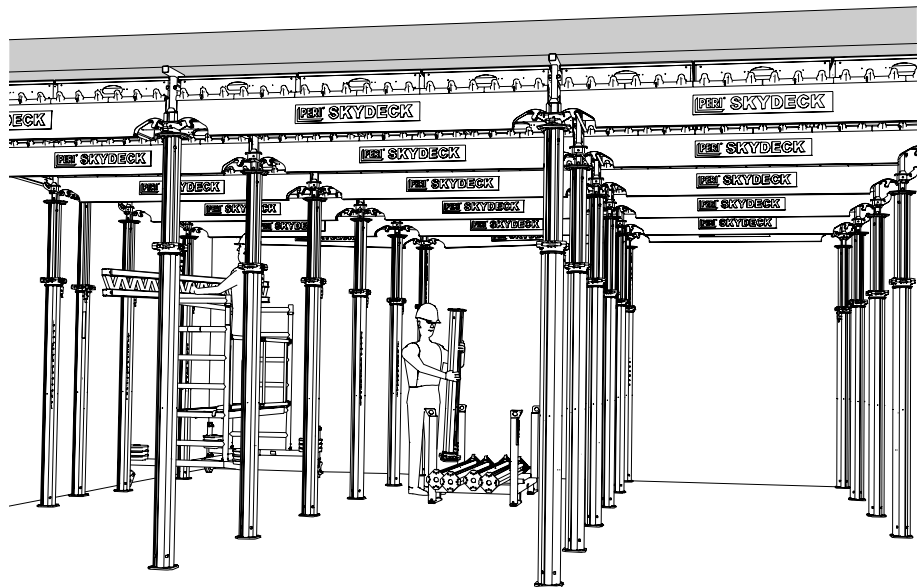

Fig. A12.02
- Dismantle system supplements such as filler timbers, edge beams, end supports and combiheads, and store in pallets. (Fig. A12.02)